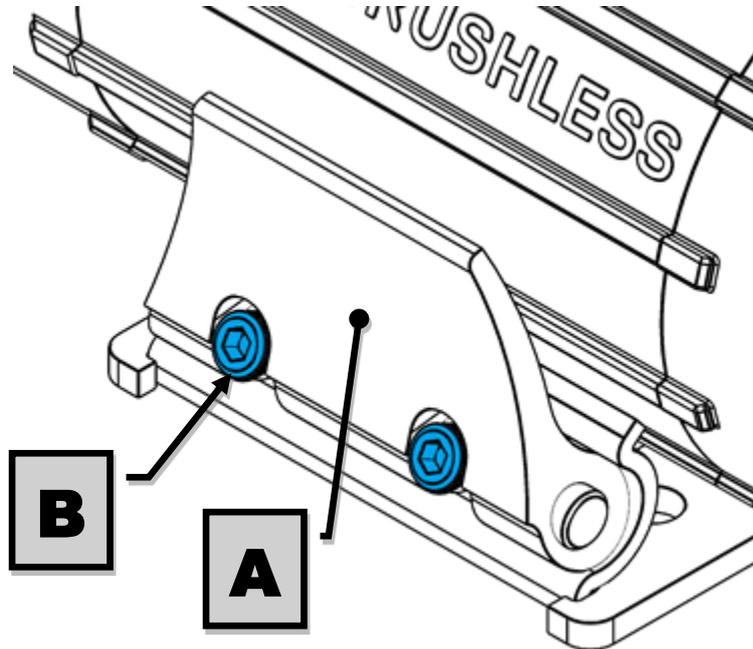

Figure 6. Adjusting the clamping force
- Assemble an aluminium washer onto the banjo bolt and insert through the banjo fitting. Assemble second aluminium washer and tighten into bulkhead fitting using a 14 mm [9/16"] spanner. (Fig.6.)